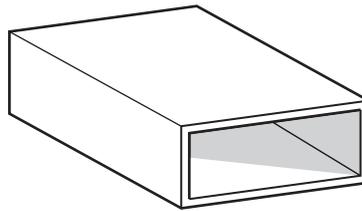

Fig. 12.2
- (a) The frame of the table is made from 50 × 20 mild steel rectangular tube shown in Fig. 12.2.